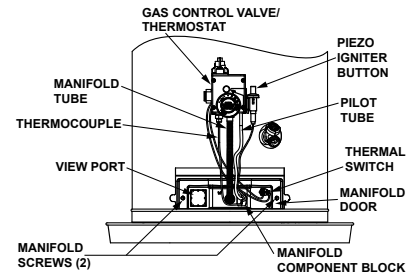

FIGURE 32.
2. On the lower front of the water heater, locate the gas control valve/thermostat (see Figure 32). Before performing any maintenance, it is important to turn the temperature dial on the gas control valve/thermostat to its lowest setting.
5. Remove the two screws securing the manifold door assembly to the combustion chamber (Figure 32).